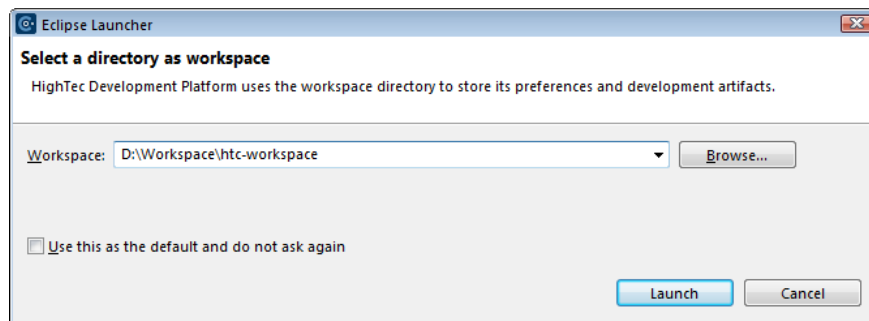

Figure 8 Workspace Launcher
1. From the installation package run the installer setup.exe. **Free TriCore Entry Tool Chain** dialog appears (Figure 8).
2. Select **Next** button. The License Agreement dialog appears. Please read carefully and agree or cancel the installation with Cancel button (Figure 8).
1. From the Windows' **Start** menu, select **All Programs – AURIX(TM) TC3xx - Free Entry Tool Chain v4.9.3.0-infineon-1.0 – HighTec IDE** or use the Desktop icon **HighTec IDE**.
2. Now the Eclipse Launcher dialog appears (Figure 8).